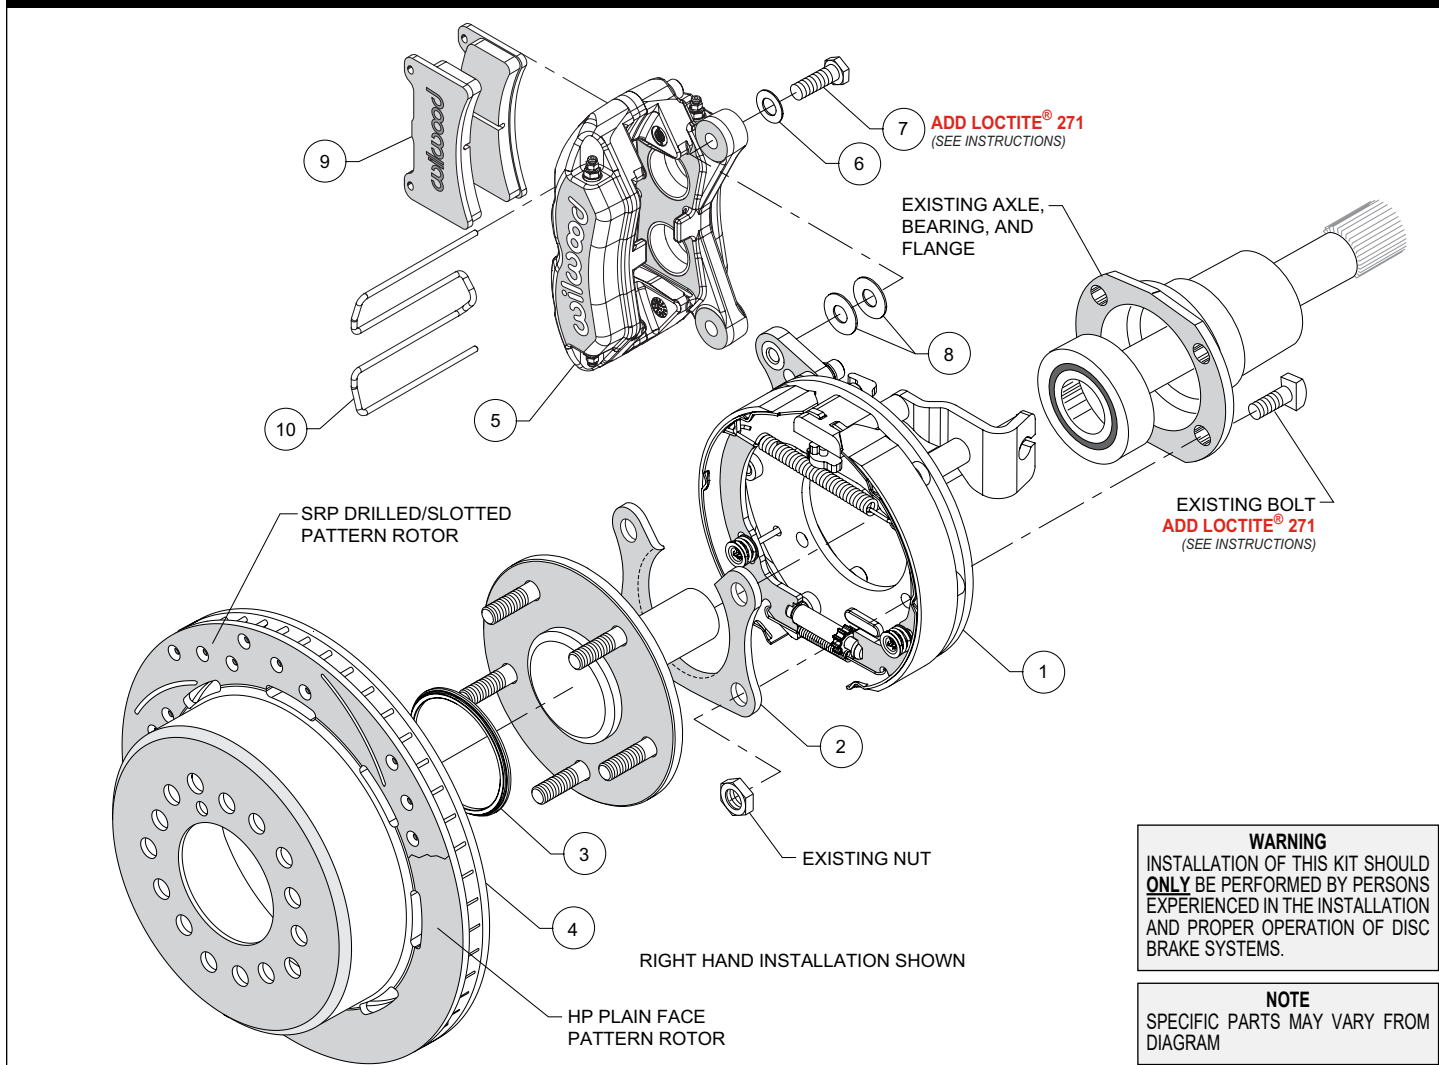

Figure 1. Typical Installation Configuration
**NOTE:** Numbers in parenthesis refer to the parts list and Figure 1 on the preceding pages.
- Orient the bracket assembly (1) as shown in Figure 1 and Photo 1 and slide it onto the axle. Insert the axle and bracket into the axle housing. Ensure that the bracket assembly backing plate fits flush against the axle housing flange.
- Install the bearing retainer (2) with the opening pointing upward and the lip facing inward (toward the bearing), as shown in Figures 1 and 4, and Photo 2. Secure retainer and bracket assembly to the axle housing flange using the Original Equipment Manufacturer (OEM) bolts and nuts, Figure 1. Apply red *Loctite*® 271 to the OEM bolt threads and torque to OEM specifications.
- Slide the rotor registration adapter (3) onto the axle register on the axle flange with the smaller O.D. facing toward the rotor/hat (4), Photo 3. Align the correct hole pattern in the rotor/hat with the stud pattern on the axle flange and slide into place, Figure 1 and Photo 4. **NOTE:** The rotor/hat must fit flush against the axle flange or excessive rotor run out may result. Install three lug nuts (finger tight) to keep the rotor/hat assembly in place while continuing with the installation. **NOTE:** Some OEM and after market axles come with stud sizes larger than 0.50" diameter. Verify stud size and have a qualified machine shop drill the bolt circle of the hat/rotor to the correct stud size, if necessary.
- NOTE:** Please reference the caution statement at the beginning of the assembly instructions. Mount the caliper (5) onto the caliper mounting bracket (1) using bolts (7) and washers (6), as shown in Figure 1. Initially place two .035" thick shims (8) on each bolt between the caliper and the bracket, Photo 5. **NOTE:** For forward mounted calipers only, the cable bracket must be temporarily removed to allow access to the upper caliper mount bolt. Remove the two flathead bolts holding the cable bracket to the parking brake backing plate, Photo 6. **DO NOT mix the bolts or spacers.** They must be reinstalled in the same locations as they were removed.